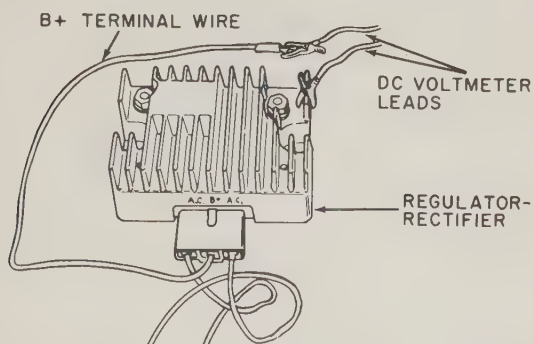

FIG. 28-20 Connecting voltmeter leads to check system voltage. (Tecumseh Products Company)
**No Charge to Battery** If no charging current is going to the battery and the battery is weak or discharged (check battery to be sure), disconnect the B+ terminal wire. Connect a dc voltmeter from this lead to the case of the rectifier-regulator as shown in Fig. 28-20. Run the engine near full throttle, and read the voltage. If it is above 14 volts, the charging system is satisfactory. The trouble may be in the ammeter or connections in the circuit.